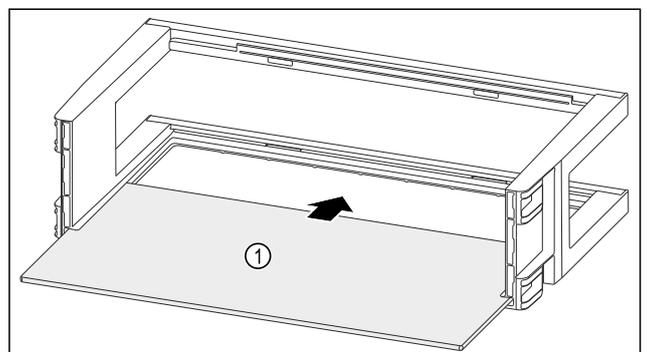

Fig. 116
- ▶ Push the shelf Fig. 116 (1) into the side recesses.